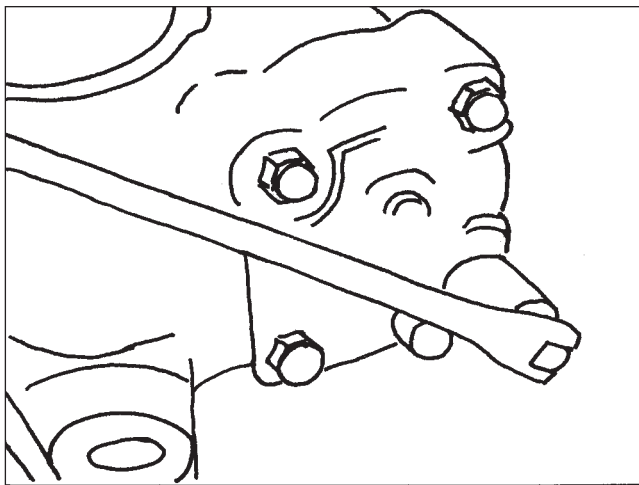

Figure 142
20. Attach the cylinder head to the housing using the four (4) remaining bolts. Torque to manufacturer's specifications (Figure 142). Specifications on page 104 of this manual.